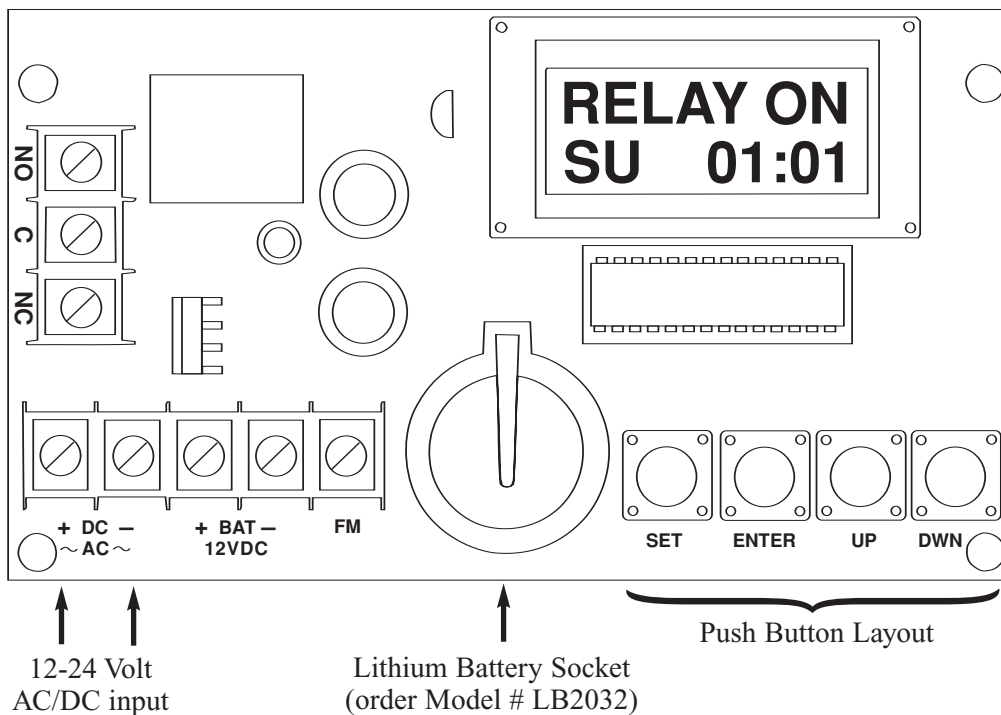

Fig. 1
4. Insert lithium battery (optional/not included. Order part LB2032) in battery holder (fig. 1 pg. 4). With the + positive side facing up.